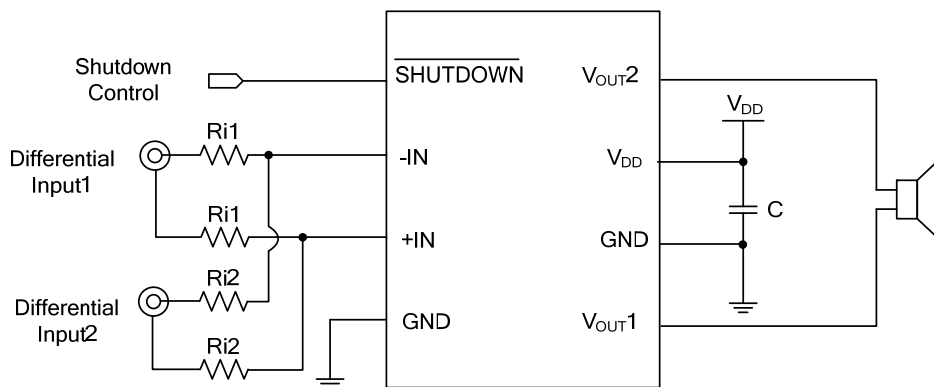

Fig. 5 Dual Differential Input Configuration
The **M4670** can be used for amplification of multiple audio sources. The application configuration as shown in Fig. 5. Each input gain can be independently set the maximum use of each input and the design equation (2) on the R_i resistors of flexibility. Input capacitance can be used with one or more than one source, as well as the different frequency response according to the source or DC voltage, if necessary from the source block.